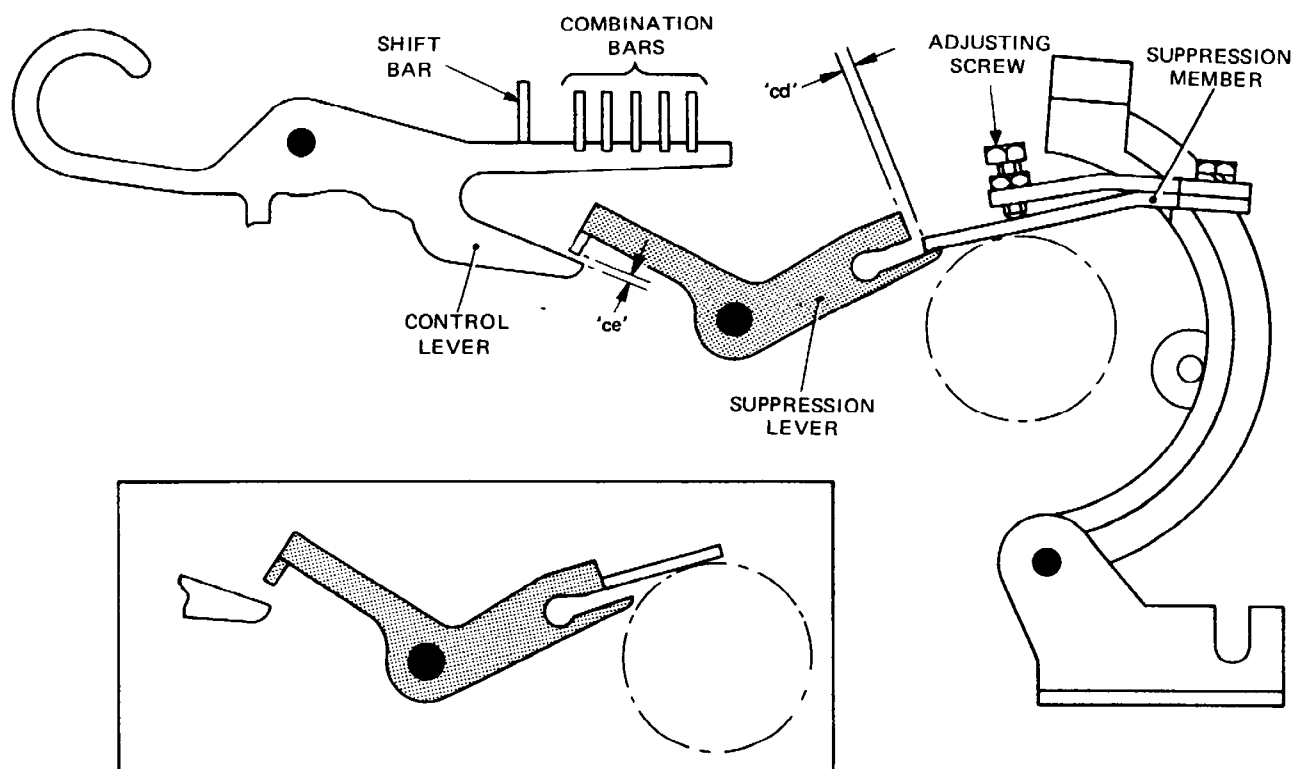

Fig. 4.86 PRINT SUPPRESSION MECHANISM
- 97.3 Set up the D or J code on the combination bars, Fig. 4.86, turn the machine by hand until the control lever rises into the combination bar slots and contacts the shift bar, and check that the control lever almost touches the suppression lever, leaving the smallest discernible gap 'ce'. Check that there is a clearance by raising the rear of the control lever to the rest position, dropping the lever, and observing that the suppression lever is not moved.
- 97.1 Set the machine to the rest condition, move the suppression lever, Fig. 4.86, so that the front goes downward, and using pin gauges TA 1551 and TA 1552 check that the gap between the
- 97.6 Set up a non-printing character and turn the machine by hand until suppression occurs, and check that the suppression member engages the suppression lever to the full thickness of the member as shown in Fig. 4.86 inset.